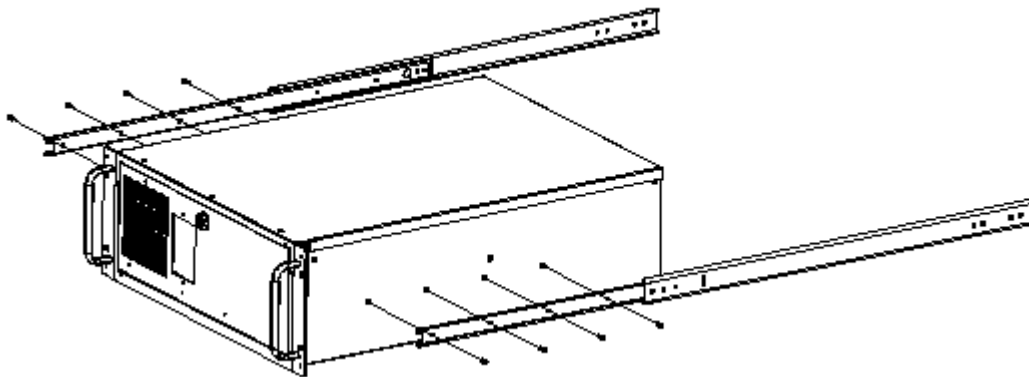

Figure 2-11. Installing Optional Slide Rails
2. Attach the provided Pro-face slide rails* to the unit (see Figure 2-11).